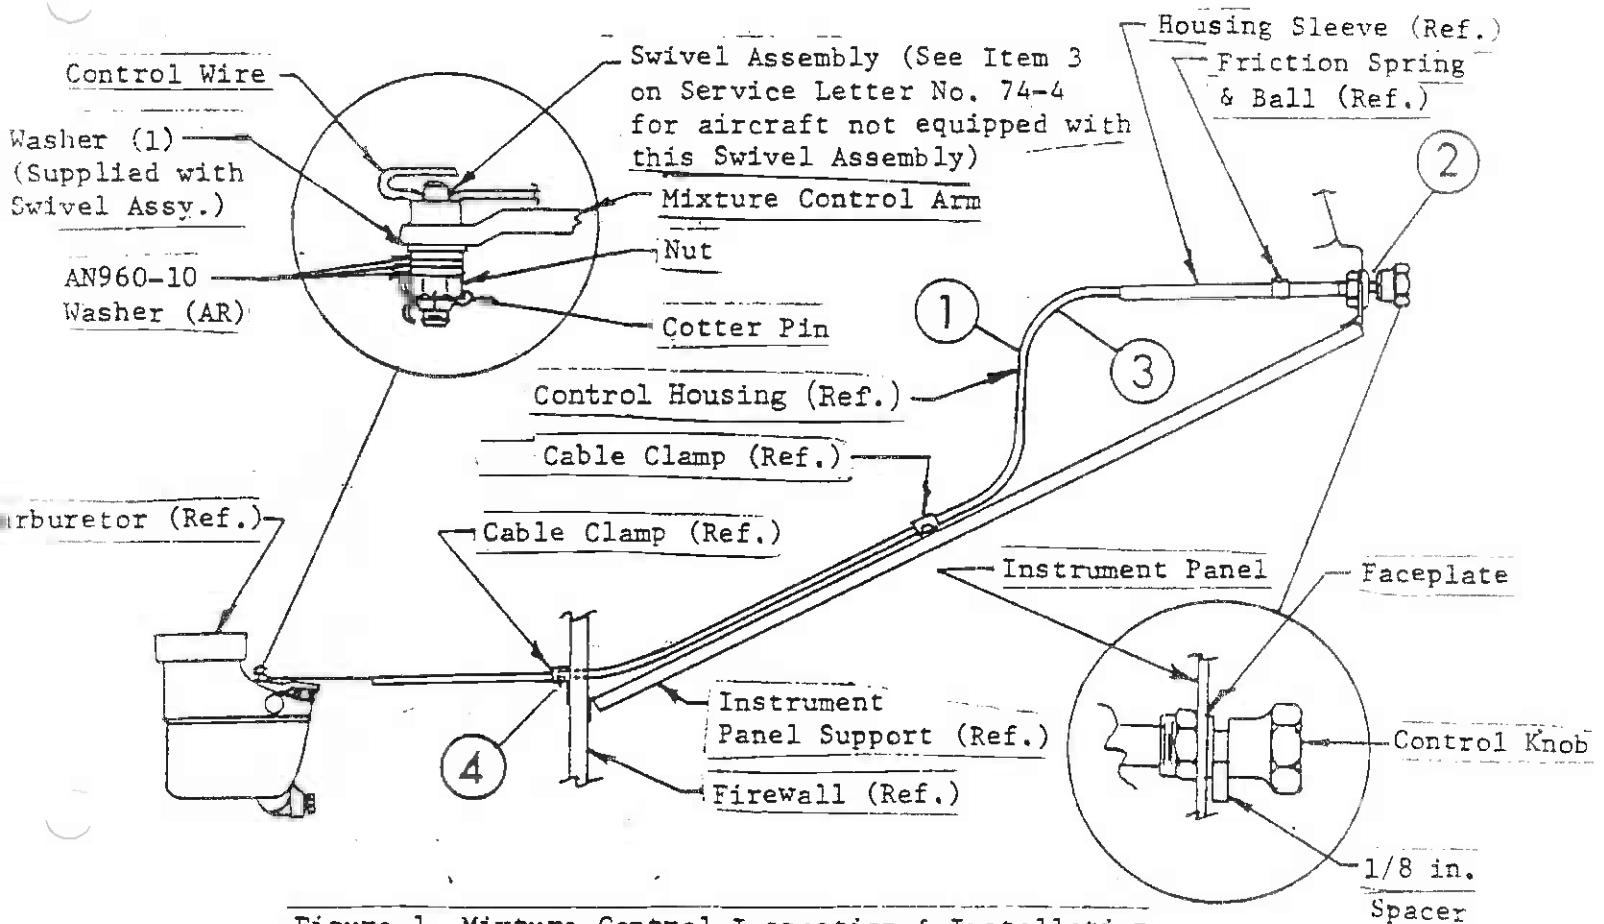

Figure 1. Mixture Control Inspection & Installation
Refer to circled numbers in Figure 1 and accomplish the inspection items listed below:
If service life limit or inspection of the control wire dictates replacement, a Control Wire/Knob Assembly is available under part number 507001-3 at \$4.50 (E) each. Refer to Figure 1 for proper installation.